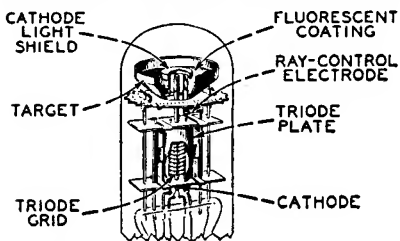

Fig. 64—Structure of electron-ray tube.
Electron-ray tubes are designed to indicate visually by means of a fluorescent target the effects of a change in controlling voltage. One application of them is as tuning indicators in radio receivers. Types such as the 6U5, 6E5, and the 6AB5/6N5 contain two main parts: (1) a triode which operates as a dc amplifier and (2) an electron-ray indicator which is located in the bulb as shown in Fig. 64. The target is operated at a positive voltage and, therefore, attracts electrons from the cathode. When